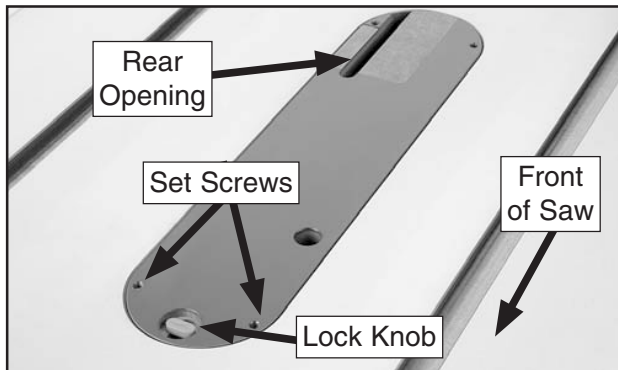

Figure 72. Insert knob in lock position.
3. Install the table insert, as shown in **Figure 72**.
—If you do not require your insert to have a zero clearance fit, especially if you need to make a range of compound cuts, you can modify the insert included with this saw. Continue with **Step 7**, then route the underside of the blade-cut slot to the same width as the rear opening (see **Figure 72**).